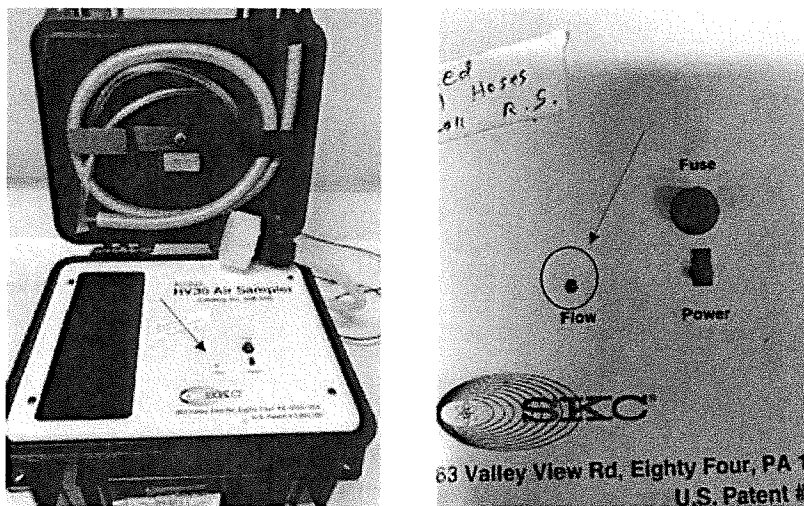

Figure 12. AirChek Pump
- 4.3.2.8 If the flow on AirChek Pump needs to be adjusted, use the small flat head screwdriver located in the toolbox. Flow can be adjusted by placing the screwdriver in the small valve directly above the word “flow” on the top of the sampler (Figure 12). Make small adjustments until the flow has hit the desired range.